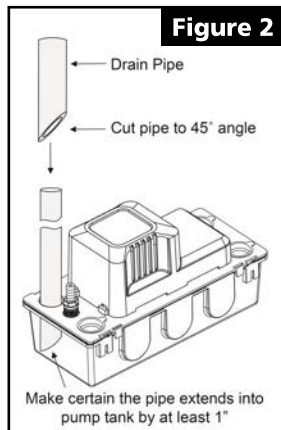

Figure 2
1. Cut the end of the inlet pipe(s) or tubing at a 45° angle to prevent blockage with the bottom of the tank. See Figure 2.